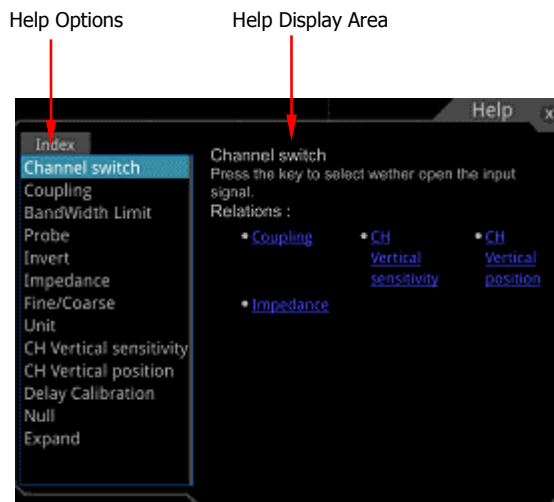

Figure 1-20 Help Information
2. Press **Content** or tap the "Content" menu item, and then the help information is displayed on the screen, as shown in Figure 1-20. The help interface mainly consists of two sections. The left section lists "Help Options", and the right section is the "Help Display Area".